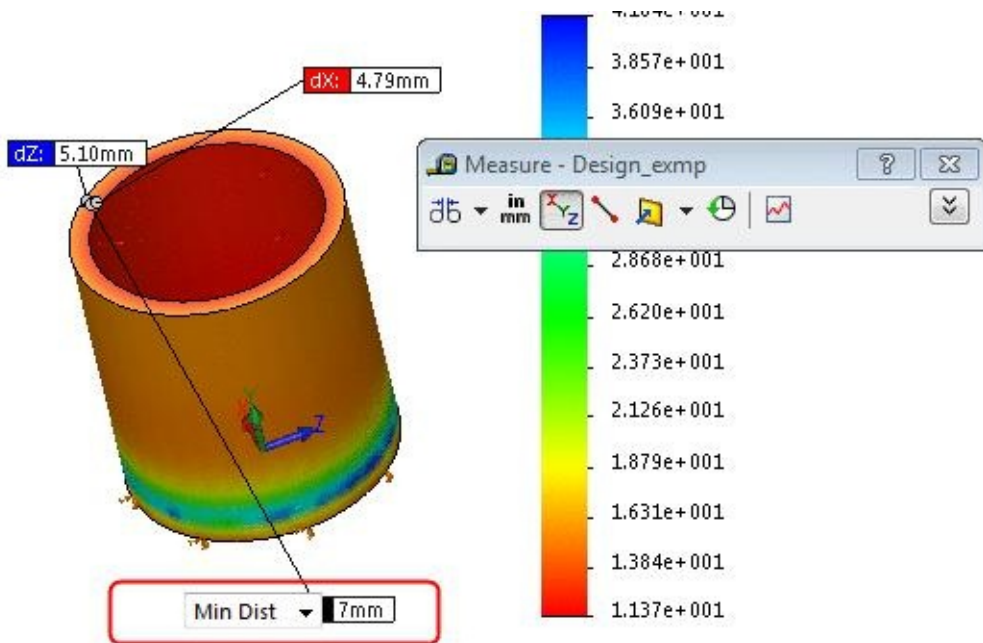

Figure-12. Thickness of tube
- If we check the dimensions then the thickness of the model is 7 mm; refer to Figure-12.